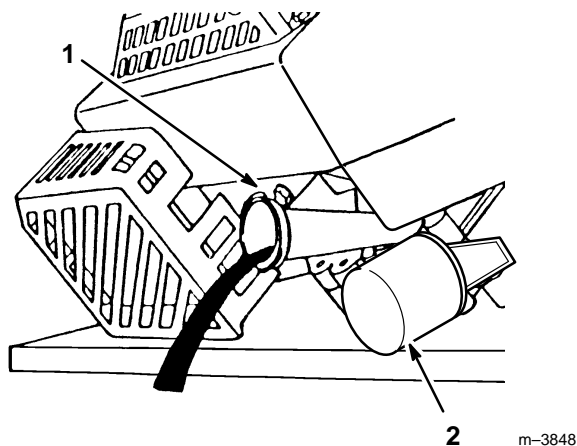

Figure 17
4. Tip mower on its left side, allowing oil to drain into drain pan (Fig. 17).
Replace the oil filter (Fig. 17) after every 100 operating hours or yearly, whichever occurs first.